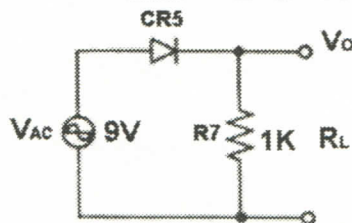

Fig 3-1 (a)
- (1) First fix the module KL-23002 in the KL-200 Linear Circuit Lab, then locate the block marked 23001-block c.
- (2)
- a. Insert the short-circuit clip by referring to Fig 3-1(a) and the short-circuit clip arrangement diagram 23002-block c.1.